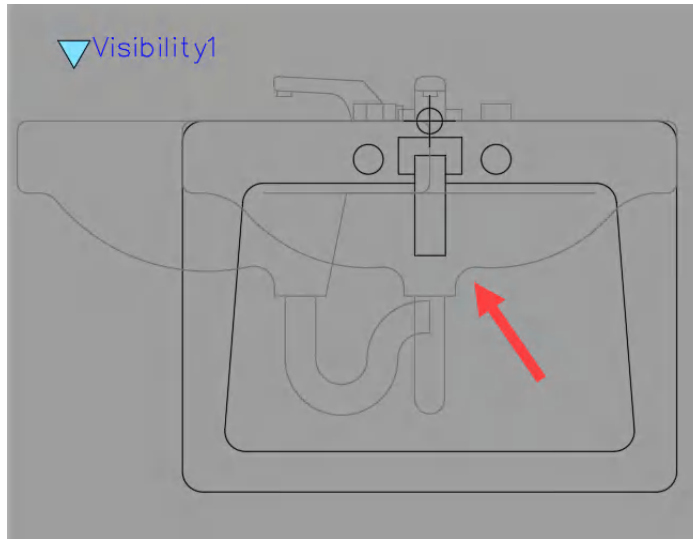

Figure 12.32: The visibility state with the top view visible
7. Again, they will automatically be deselected. They are now marked as invisible in the **Washbasin-TOP** visibility state and grayed out, as shown in *Figure 12.32*.